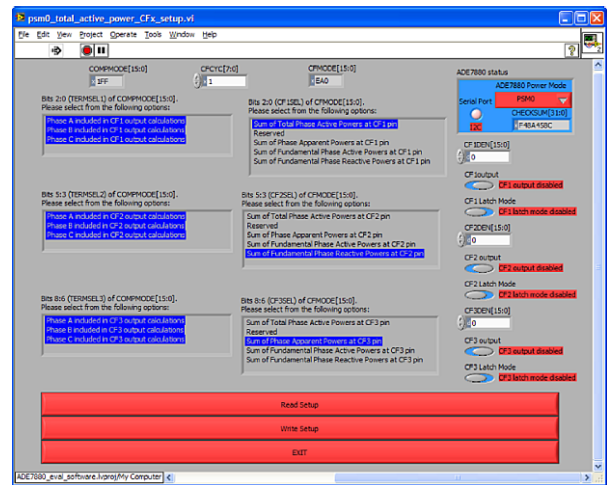

Figure 13. CFx Configuration Panel
3. Click the **CFx Configuration** button to open a new panel (see Figure 13). This panel gives access to all bits and registers that configure the CF1, CF2, and CF3 outputs of the ADE7880. The **Read Setup** and **Write Setup** buttons update and display the CF1, CF2, and CF3 output values.